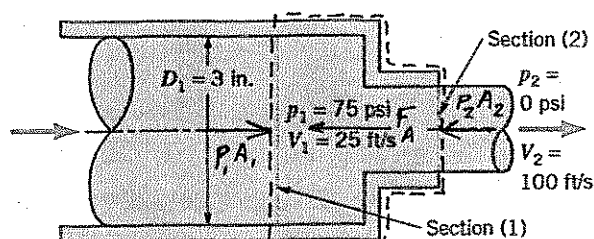

FIGURE P5.42
5.42 Water enters the horizontal, circular cross-sectional, sudden contraction nozzle sketched in Fig. P5.42 at section (1) with a uniformly distributed velocity of 25 ft/s and a pressure of 75 psi. The water exits from the nozzle into the atmosphere at section (2) where the uniformly distributed velocity is 100 ft/s. Determine the axial component of the anchoring force required to hold the contraction in place.